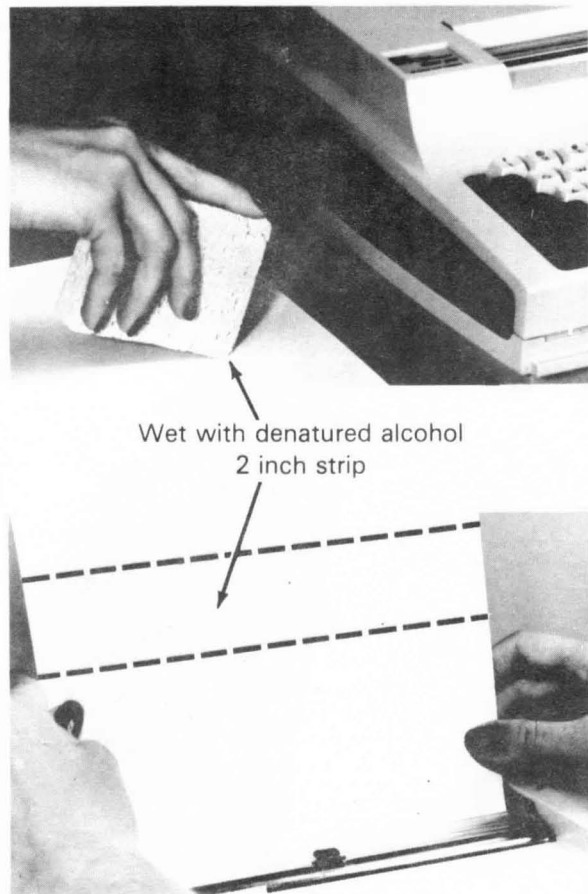

Figure 6-11. Printhead Cleaning
2. Using 95-percent denatured alcohol, wet a 50mm (2 inch) wide strip across a sheet of good quality bond paper (Figure 6-11). Insert the sheet in the paper chute so that the wetted area appears under the print-head. If denatured alcohol is not available, rubbing alcohol can be used.